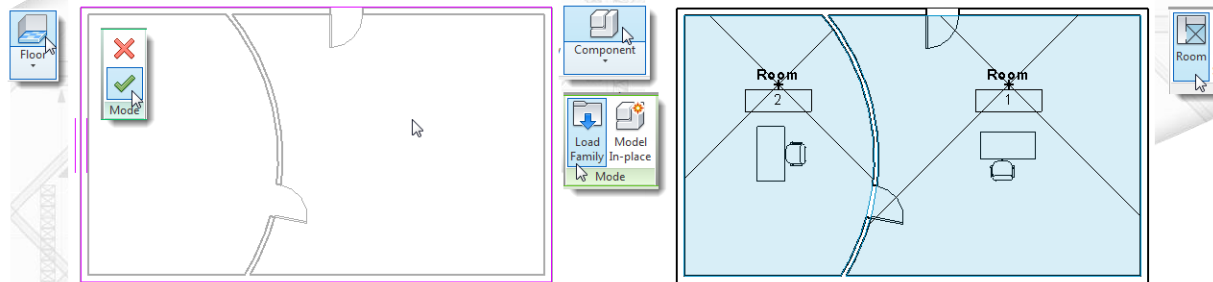

FIGURE 4 – ADD A FLOOR, SOME FURNITURE AND ROOMS
10. On the Architecture tab, click the Room button. Move the cursor into one of the enclosed spaces and then click to place a room. Repeat in the other space (see Figure 4).